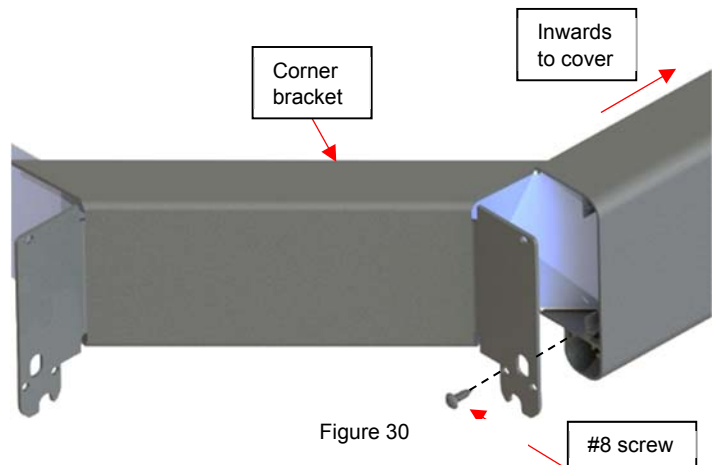

Figure 30
30) Snap on the remaining side C-channels, 83" (210 cm) at one end of the cover. It is recommended to slightly engage the top flange onto the foam panel before the bottom when sliding the C-channel onto the foam panel (Figure 30).
31) Screw in the Robertson sheet metal #8 x 1/2" screw in the inner hole of the corner bracket reinstall the (Figure 30).